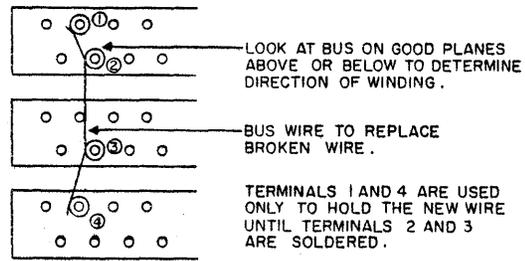

FIGURE 3. BUS WIRE CONNECTION, X-Y ARRAY WIRING
4. To insure that the replacement lead will be taut, use a procedure similar to that shown in figure 3. The new bus wire should be wrapped around the tip of the terminals.
5. As noted in figure 3, if the broken bus wire was connected between pins 2 and 3, the new wire should first be wrapped around pin 1 to provide an anchor. With the wire taut, wrap the new wire around pins 2, 3, and 4 one full turn.